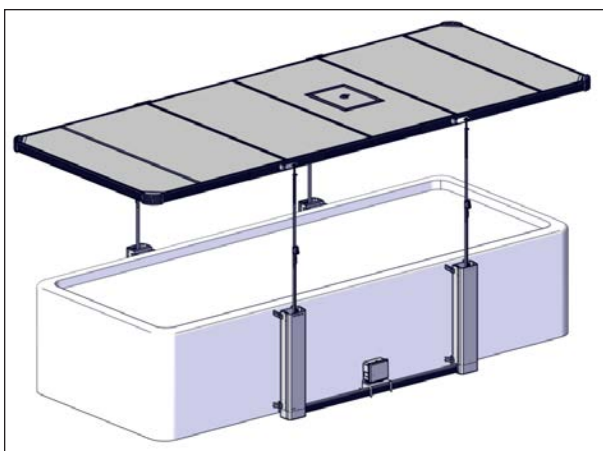

FIGURE 109: JACK RAISING
- Raise the jacks until the system stops at its maximum limit, see Figure 109.